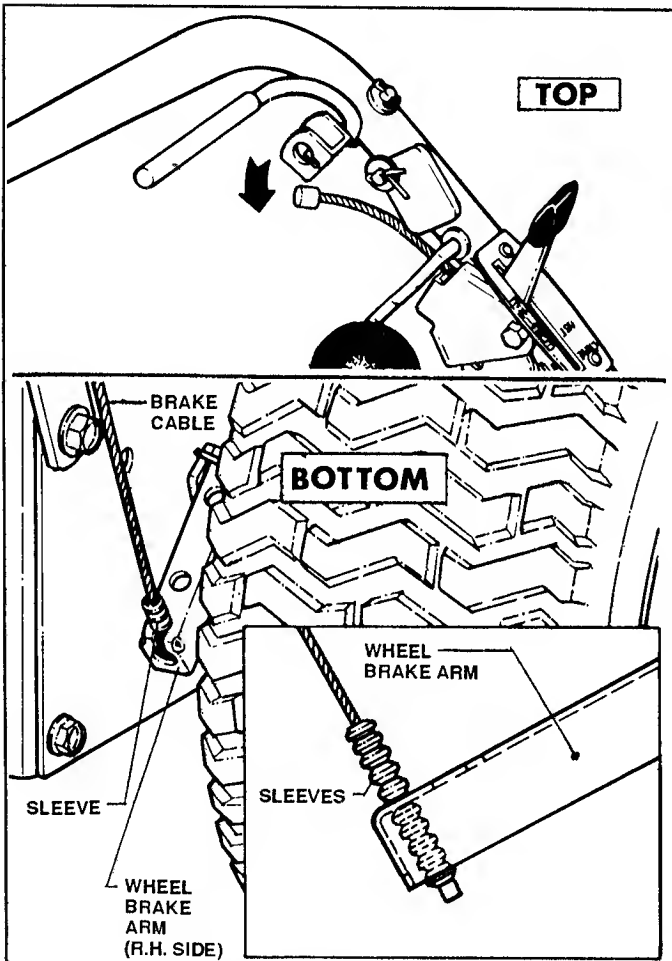

FIGURE 24
1. Remove snap ring and washer, then pull the BRAKE CONTROL out of the bushing in upper handle and disconnect the brake cable from the slot in BRAKE CONTROL. Slip other end of cable out of the slot in the wheel brake arm, add 1 sleeve at a time from topside to inside of arm to shorten cable and tighten brake. Then reconnect cable and test braking action. Braking action is correctly set when wheels are locked when BRAKE LOCK is "ON". Repeat procedure as required. See Figure 24.